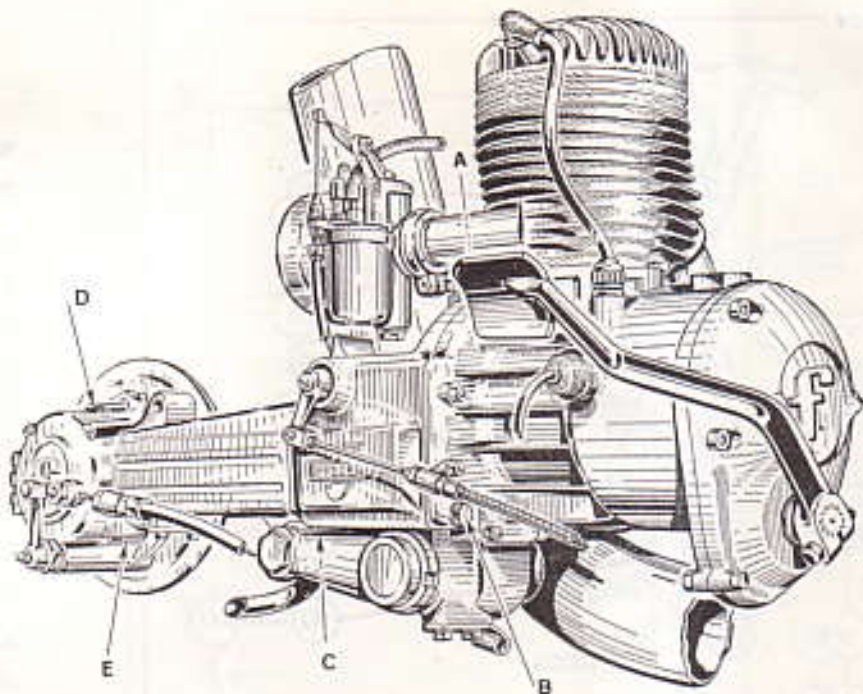

Fig. 7
- Check the gearbox oil level and pour oil through the plug A until it flows out from cap B (fig. 7).
- Lubricate through the greasers the engine group knuckle (8), the rear brake control pin (6) and the front wheel swinging lever pins (10).
- Drain oil from the gearbox when the engine is warm. To drain oil, remove the lower cap C (fig. 7) and put in approx. 0.7 lb. oil through the cap A.